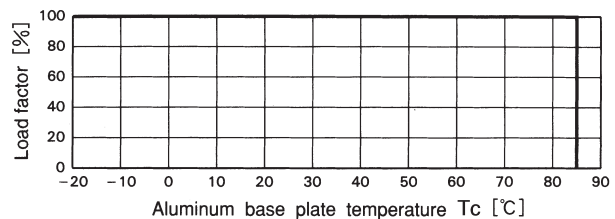

Fig.5.3 Derating curve
- Use with the conduction cooling (e.g. heat radiation by conduction from the aluminum base plate to the attached heat sink). Fig.5.3 shows the derating curve in terms of the aluminum base plate temperature.